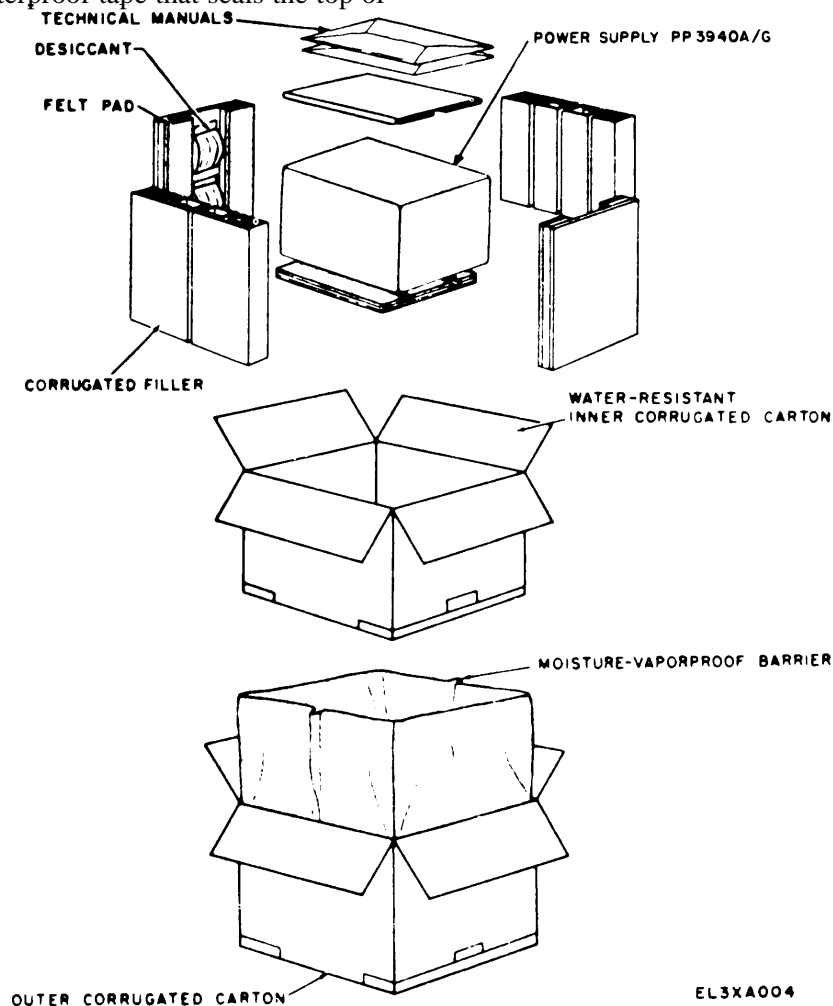

Figure 2-1, Power Supply PP-3940A/G, Packaging Diagram
(fig. 2-1)**
a. *Packaging Data.* When packed for shipment, Power Supply PP-3940A/G is placed in a carton and packed in a 7- by 19- by 11-inch outer corrugated carton. A typical packaging diagram is shown in figure 2-1. The volume is 0.85 cubic foot and the total weight is 35 pounds.
- (1) Cut the waterproof tape that seals the top of the shipping carton.
- (2) Remove the inclosed cardboard carton.
- (3) Cut the waterproof tape that seals the top of